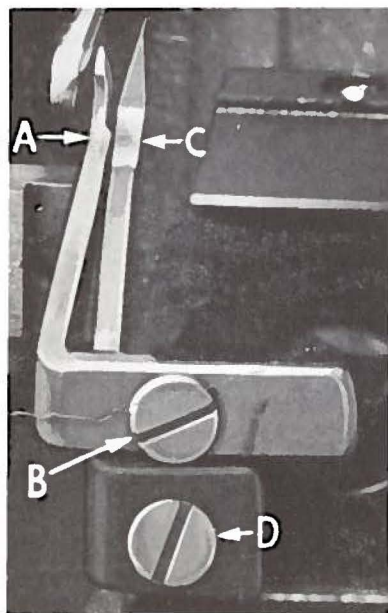

Fig. 5
Set rear needle guard (A, Fig. 5) as high as possible, without interfering with either lower looper or movement of lower knife holder, but still in position to deflect needles forward  $.002$ -. $.004$  inch. Screw (B) is used to set rear needle guard. Make sure there is no interference between rear needle guard and lower looper.
Assemble front needle guard (C, Fig. 5). When lower looper is springing needles off back guard, set front needle guard as closely as possible to needles without touching. Use screw (D) to adjust and set front needle guard. After setting, make sure there is no interference between needle guards and differential feed dog.